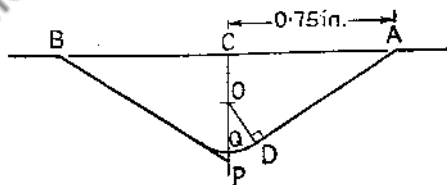

Fig. 38
(4) A  $120^\circ$  vee-block 1.500-in. wide at the top is rounded off at the bottom by a radius of 0.400 in. Calculate the maximum depth of the block (fig. 38).
In fig. 38,  $C$  is mid point of  $BA$ .